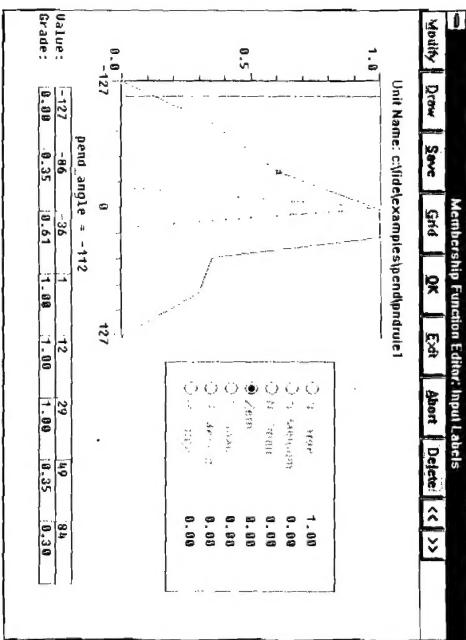

Figure 5-13 Editing Membership Function
16. Move the pointer on the graph and click where the points of the label should be located. Use the delete button to erase any point you are defining and do not like (see Figure 5-13).